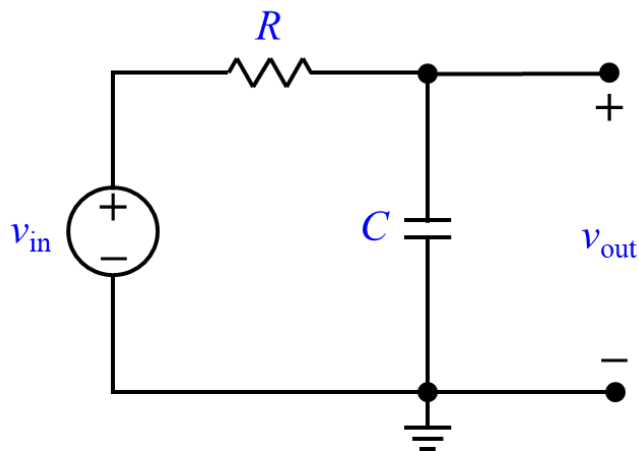

Figure 4 – RC Circuit
When resistor R and capacitor C are connected in series, they form a first-order resistor-capacitor circuit (RC circuit), as shown in **Figure 4**.
1. Build the RC circuit in **Figure 4** with the resistance decade R .